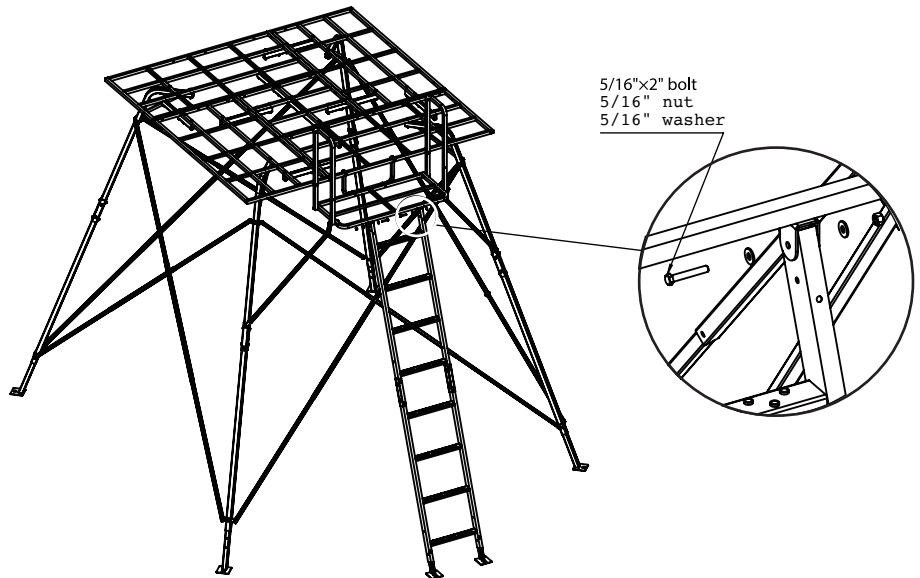

FIGURE 14
Attach the assembled **LADDER** to the **FRONT PLATFORM (#13)** by using (2) 5/16"-18 x 2" bolts, (2) 5/16" lock nuts and (4) 5/16" flat washers (Figure 14). **Be sure to not over tighten.**